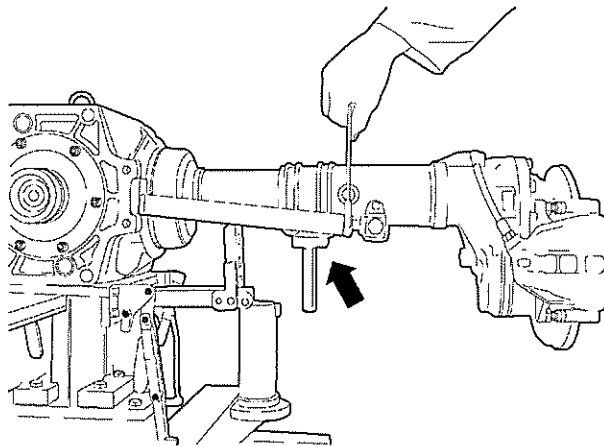

Fig 11 Wheel drive removal
6.8 Insert wedge of press off device (Table 1, Ser 5) into slot adjacent to anti fatigue bolts until stop in portal hub housing. Bolt on device when axle is in extended position and remove wheel drive. Carry out procedure on other side (see Fig 11).